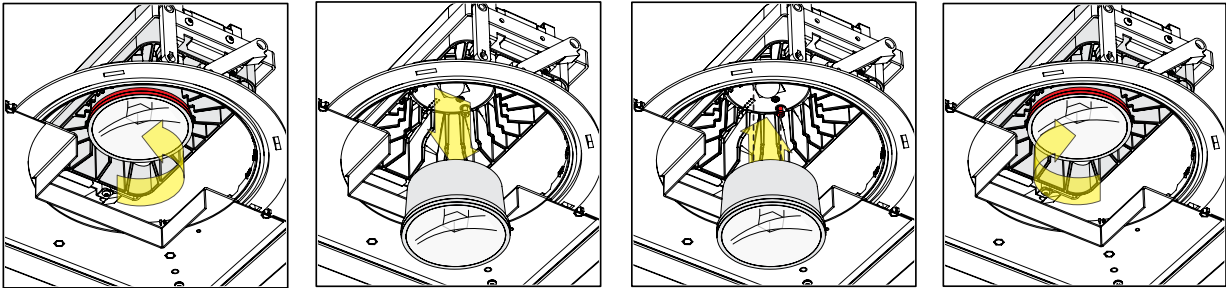

fig. 18
- Install replacement optic, twisting clockwise to lock (see fig. 18).